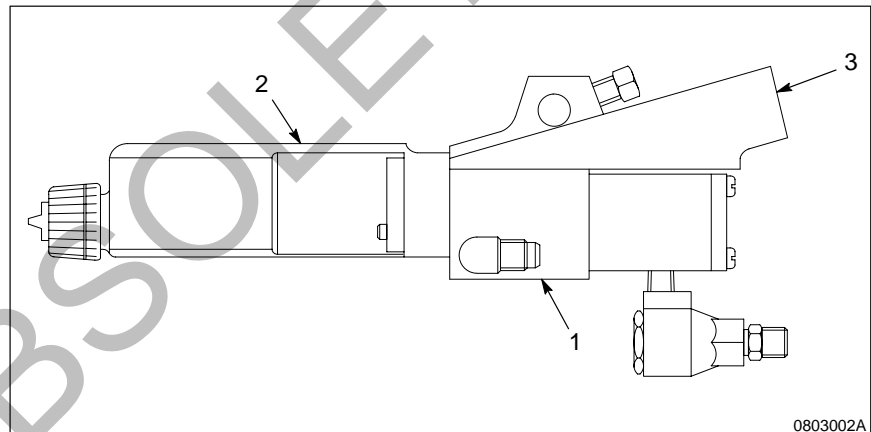

Fig. 2 Model CA-1 gun
See Figure 2. The Model CA-1 Automatic Airless Electrostatic Spray Gun is part of an airless coating system. The gun body (1) is available in aluminum (standard) or stainless steel. The gun extension (2) is a non-conductive engineering plastic. The Model CA-1 guns can spray at fluid pressures up to 103.4 bar (1500 psi).